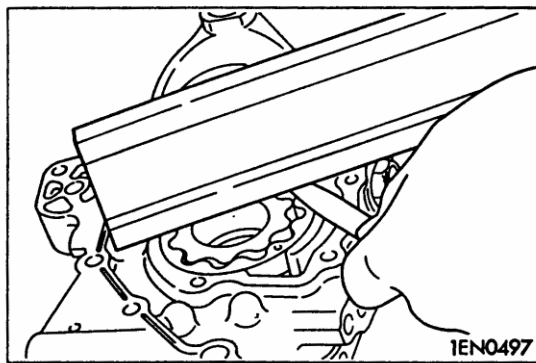

Fig.4-88
- (3) Check the side clearance using a straight, see Fig.4-88.